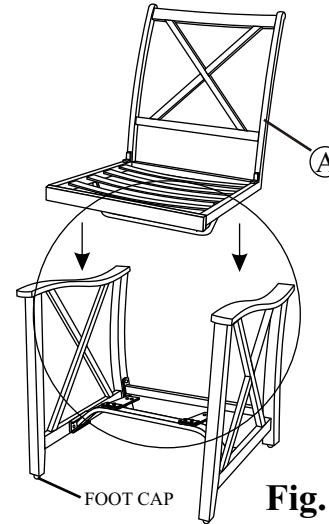

Fig. 3
Step 5: Set the chair frame on the rocker assembly with front of the seat facing you and the arrows on the "U" bar pointing towards you as shown in Fig. 3. This is very important for a safe, balanced rocking motion. **If chair frame has been properly positioned on the rocker assembly, all arrows on the "U" bar and rocker assembly will be pointing in the same direction.**